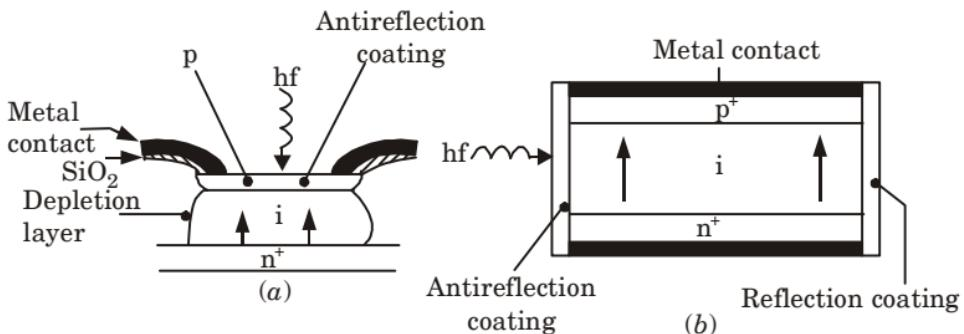

Fig. 4. (a) Structure of a front illuminated silicon p-i-n photodiode
- Fig. 4 shows the structure of two types of silicon p-i-n photodiode for operation in the shorter wavelength band below 1.09 μm .